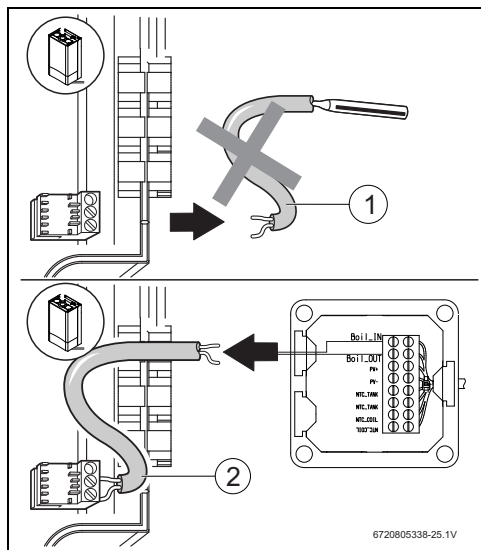

Fig. 10
- ▶ Remove the NTC connection from the tank to the boiler (Fig. 10, [1]).
- ▶ Connect the two wires of the additional cable (Fig. 10, [2]) to the same boiler connections.